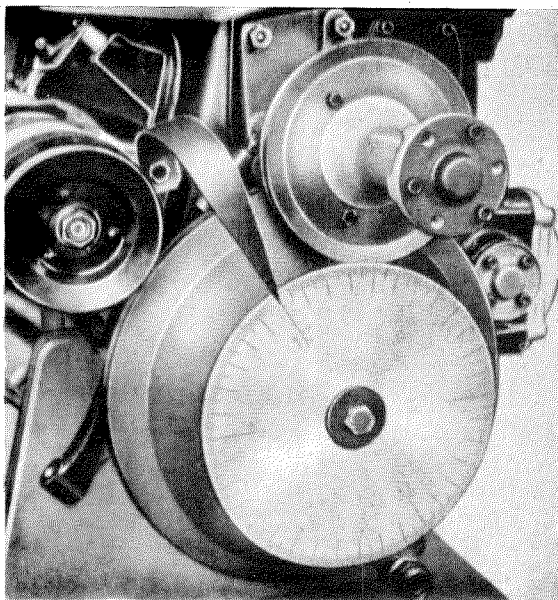

Fig. 01—3/39
1. If the engine is not installed in the vehicle, a suitable graduated disk divided into 360° is fixed to the crankshaft and a pointer is fixed to the crankcase (see Fig. 01—3/39).
2. If the engine is installed in the vehicle, Disk 180 589 07 23, divided into 360° , should be fixed to the camshaft (see Fig. 01—3/40).